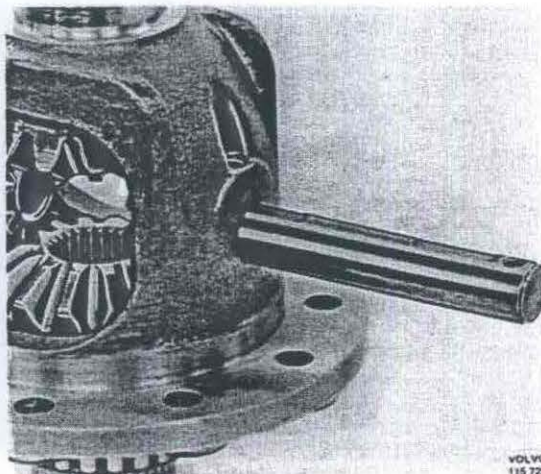

Fig. 46-53. Driving in the shaft
4. Drive in the shaft, Fig. 46-53. While driving in check to make sure that the thrust washers are fitted properly.